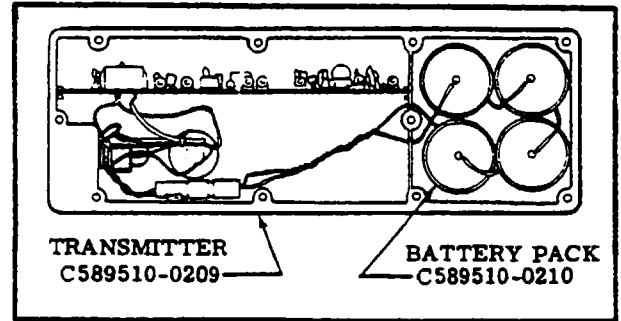

Figure 17-23. Lithium 4-Cell
17-129. REMOVAL AND INSTALLATION OF LITHIUM FOUR-CELL BATTERY PACK. (Refer to figure 17-23.)
d. Place new battery pack in the transmitter with four batteries as shown in the case in figure 17-23.
e. Connect the electrical connector as shown in figure 17-23.